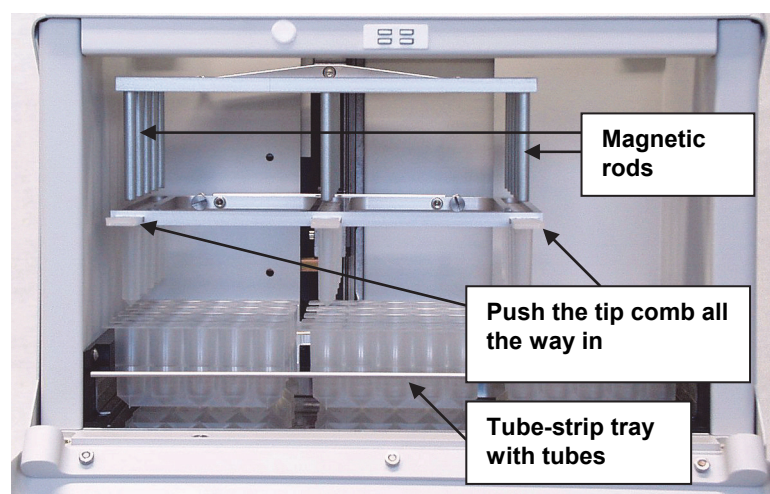
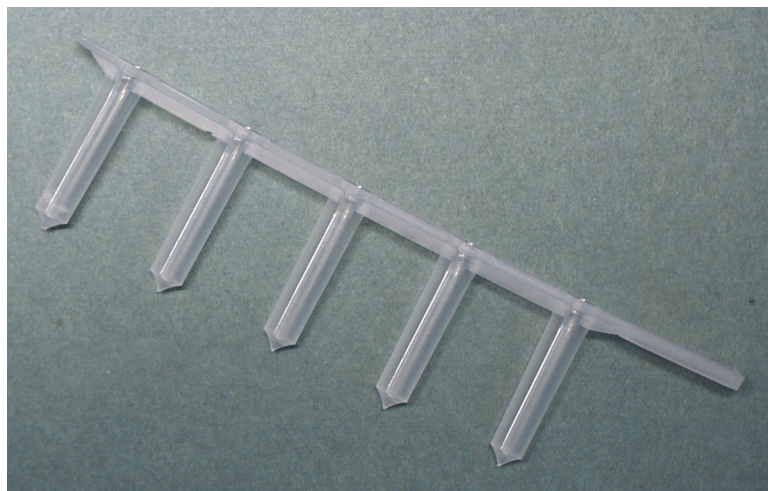
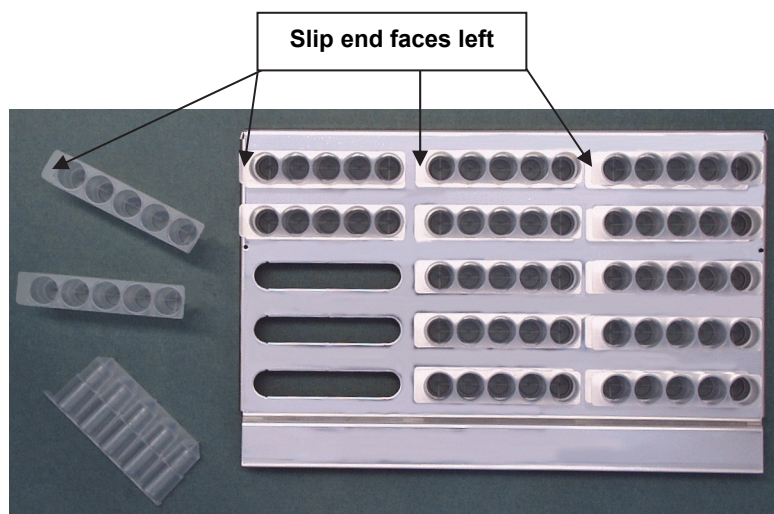

Fig. 6.3 Positioning of the tube-strip tray and insertion of the tip comb(s)
Fig. 6.4 Tip comb specially designed for the BeadRetriever
Fig. 6.5 Tube-strip tray containing tubes specially designed for the BeadRetriever
- A tube strip contains one sample and the reagents for a single processing. The user can select the position of the tube strip(s) on the tube-strip tray. The user must keep track of the sample order. However, the orientation of the tube strip is fixed. The tube strips have to be positioned so that the slip ends face left (Fig. 6.3 and Fig. 6.5). Note that the order in the tube strip of the sample and reagents is determined by the kit used. Load only maximum fifteen special tube strips at a time into the tray for processing (Fig. 6.5). Slide the tray fully back in.
- The tip comb(s) always has (have) to be in its (their) slot(s) and fully inserted (Fig. 6.3). The instrument also functions with either one tube strip or one to fifteen tube strips depending on the amount of samples. At least one tip comb (Fig. 6.4) always has to be inserted into one of the narrow slots meant for the tip comb.